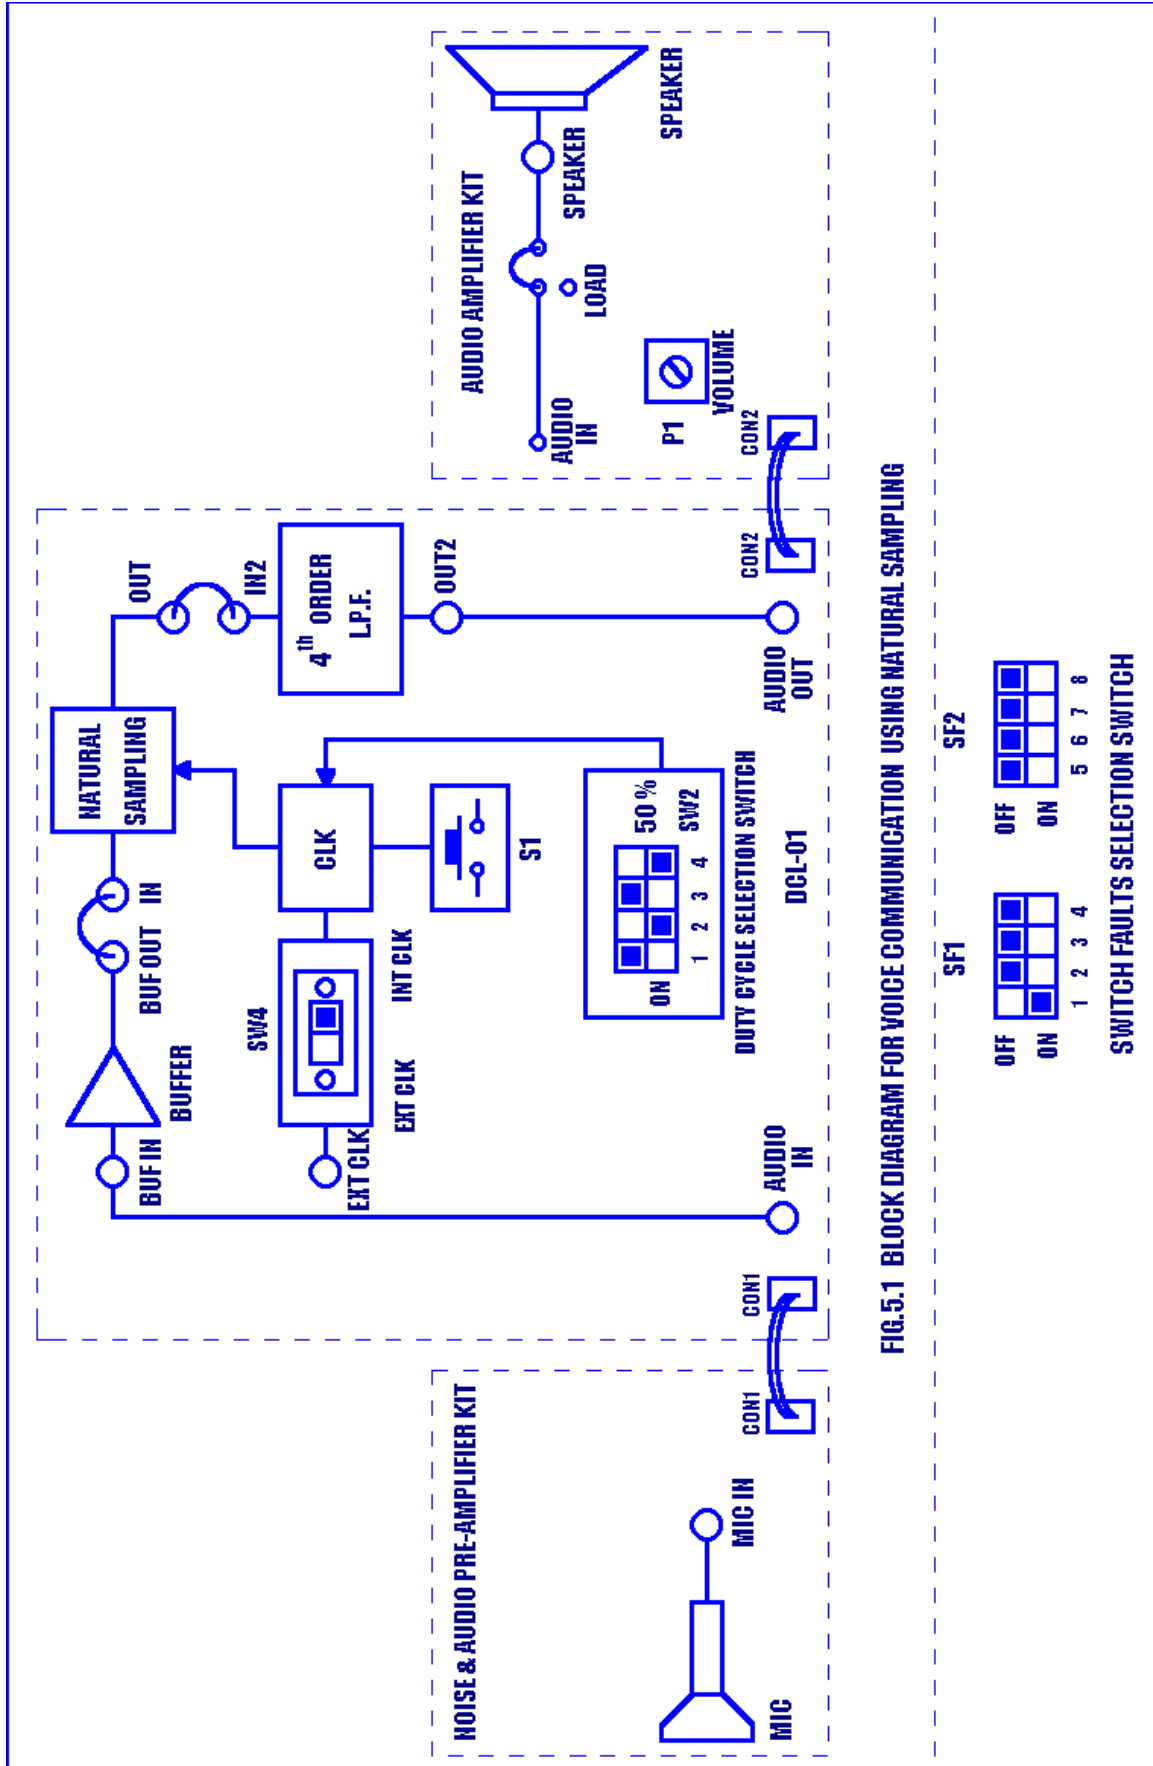

FIG.5.1 BLOCK DIAGRAM FOR VOICE COMMUNICATION USING NATURAL SAMPLING
1. Refer to the Block Diagram (Fig. 5.1) & Carry out the following connections and switch settings.
13. Put the jumper in Audio Amplifier Kit towards speaker selection as shown in Fig. 5.1.